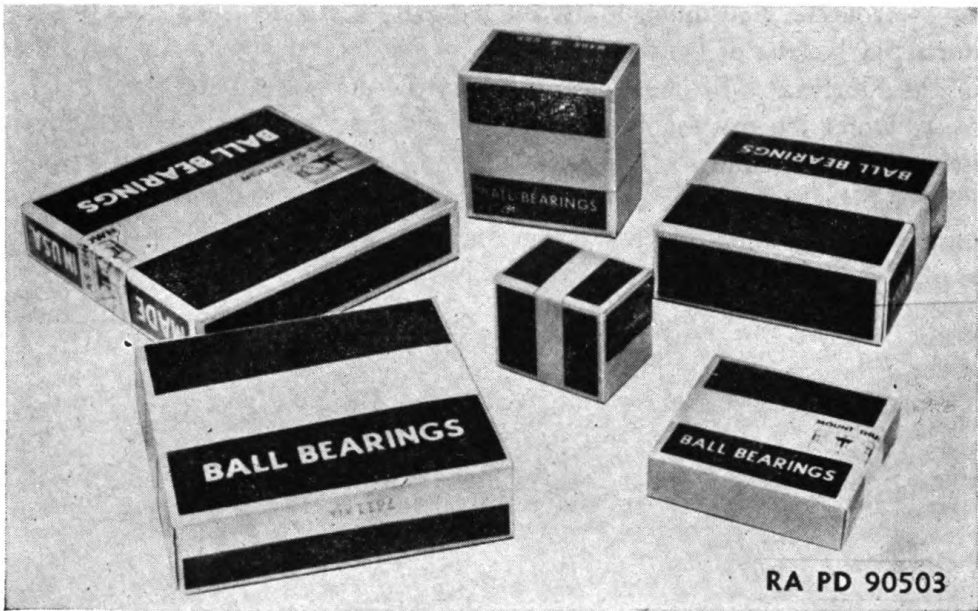

Figure 49. Keep bearings in their original boxes and wrappings until they are to be mounted.
a. New bearings, before being wrapped or packed, are carefully cleaned by the manufacturer and are thoroughly coated with a preservative. They are wrapped in greaseproof wrapping paper to keep them clean and have a carton or other covering for further protection. Keep bearings in original cartons or wrappings until ready for use. (See fig. 49.)